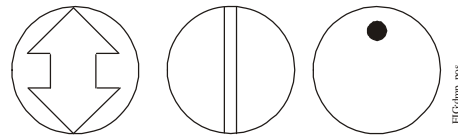

Figure 2: Damper Position Icons
1. Check that the damper blade is visually accessible, or its position is permanently marked on the end of the damper shaft, as illustrated in Figure 2.
3. Make a note of the rotation range and direction, either clockwise (CW) or counterclockwise (CCW), required to close the damper.